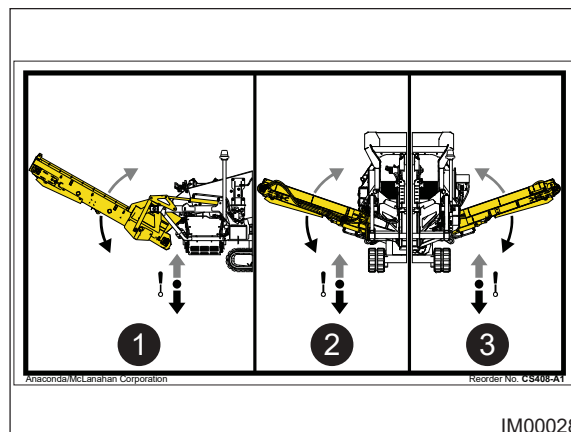

Fig: 10.3 - Control Levers
4. Slow and carefully push UP the control lever (Item 1, Fig: 10.3) to fold the oversize conveyor.